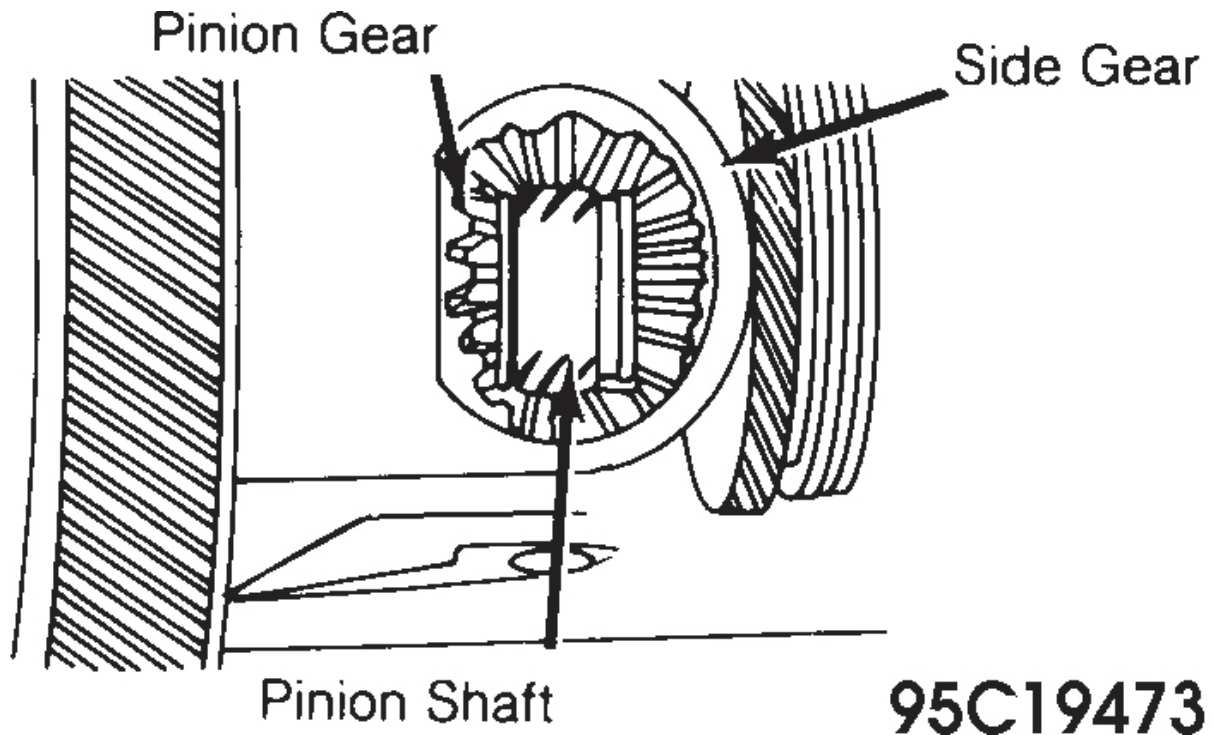

Fig. 27: Location Of Drive Flange Retaining Clips
1. Place final drive assembly in holding fixture. Remove oil pan and gasket. Rotate differential assembly in case until differential pinion gear opening appears. Use 2 screwdrivers to remove 2 clips retaining axle drive flanges in differential. See **Fig. 27**.